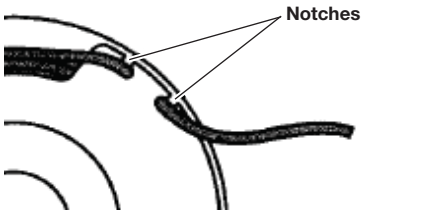

Fig. 18
- Lock the ends of the lines in the two notches on the spool (Fig. 18).